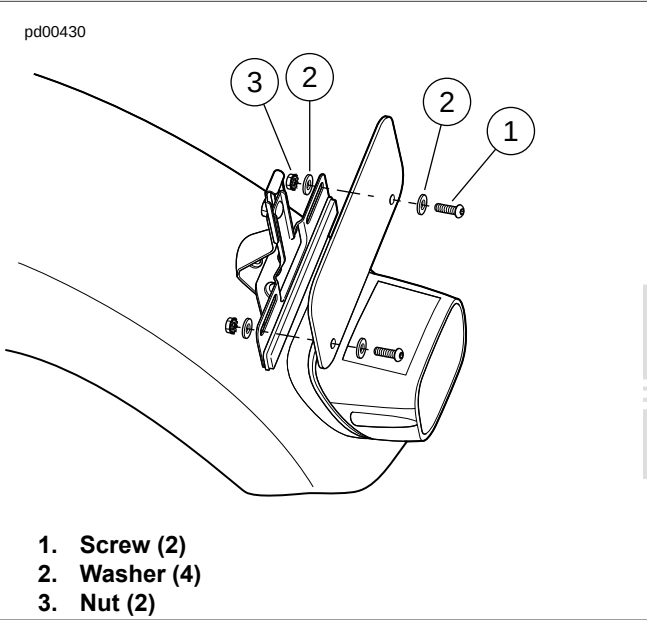

Figure 2-217. License Plate Bracket: XL 883L/R (India) (shown)
1. See Figure 2-217. Assemble the screws (1), washers (2) the license plate and the nuts (3) to the license plate bracket.